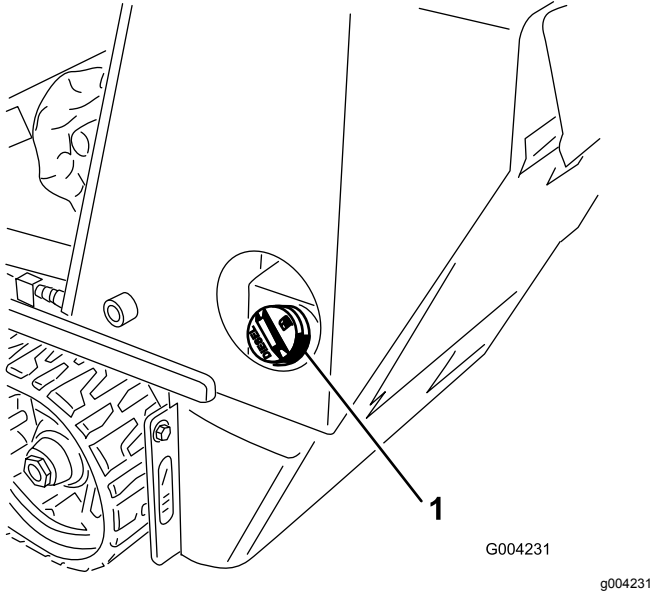

Figure 13
3. Clean around the fuel-tank cap and remove it (Figure 13).